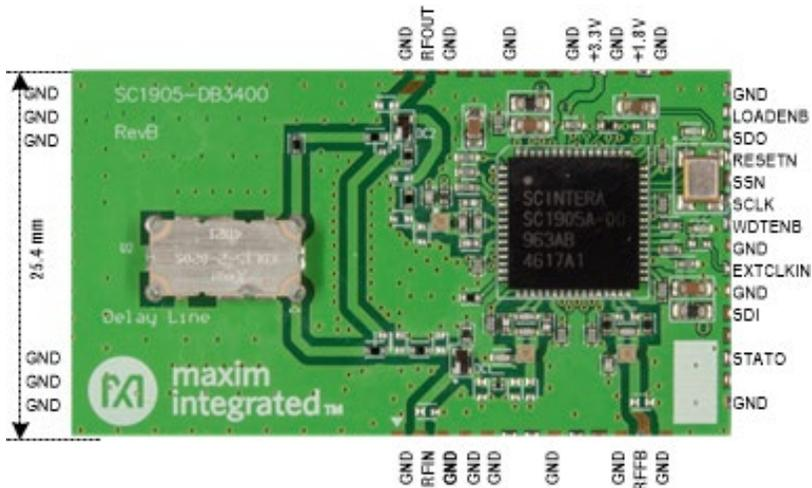

Figure 3. SC1905 reference daughter board photograph and pin configuration.
- a. Although not represented in Figure 3, it is highly recommended to use a connector to upgrade firmware with the GUI during the system integration and SPI interface bring up. This connector must have the following signals: SDI, SDO, SSN, SCLK, RESETN, WDTEN, GND, and LOADENB.